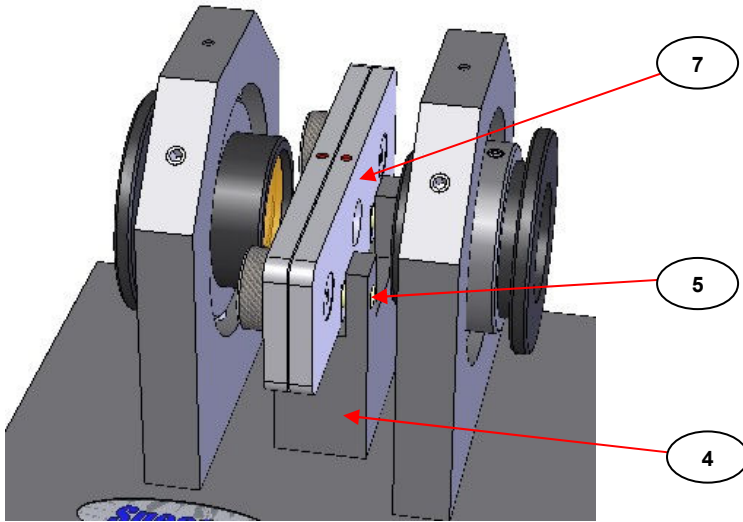

Fig 4. DC-3 Correctly Fitted Into Microfocus Beam Condenser
From consultation of the user instruction manual for the DC-3 and having constructed the DC-3 accessory with or without an appropriately compressed sample (without for background reference spectrum), carefully place the DC-3 correctly into the sample support block (4), such that the two location grooves (6) align with the two ball spring catches (5) and push the DC-3 assembly all the way down into the support block (4) so that the lower edge of the DC-3 assembly is in contact, flush and parallel with the top surface of the support block (4). (The DC-3 accessory will only fit one way correctly into the microfocus beam condenser). (See **Fig 4.**)